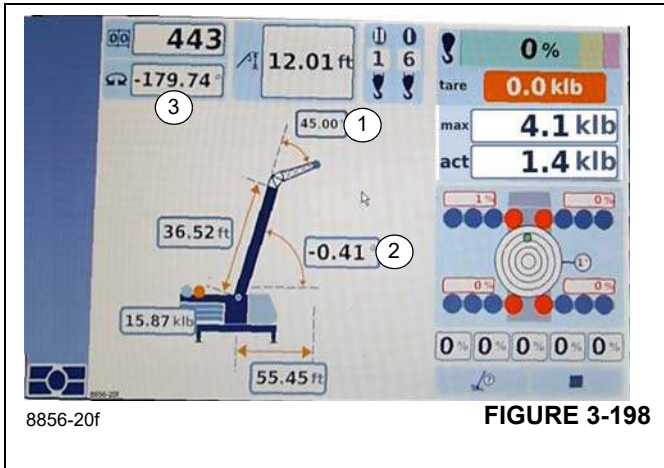

FIGURE 3-198
| Display: | Current angle between main boom and horizontal position in degrees (°) (2), (Figure 3-198) |
| 0°:              | Position 0° to the rear (3), (Figure 3-198) |